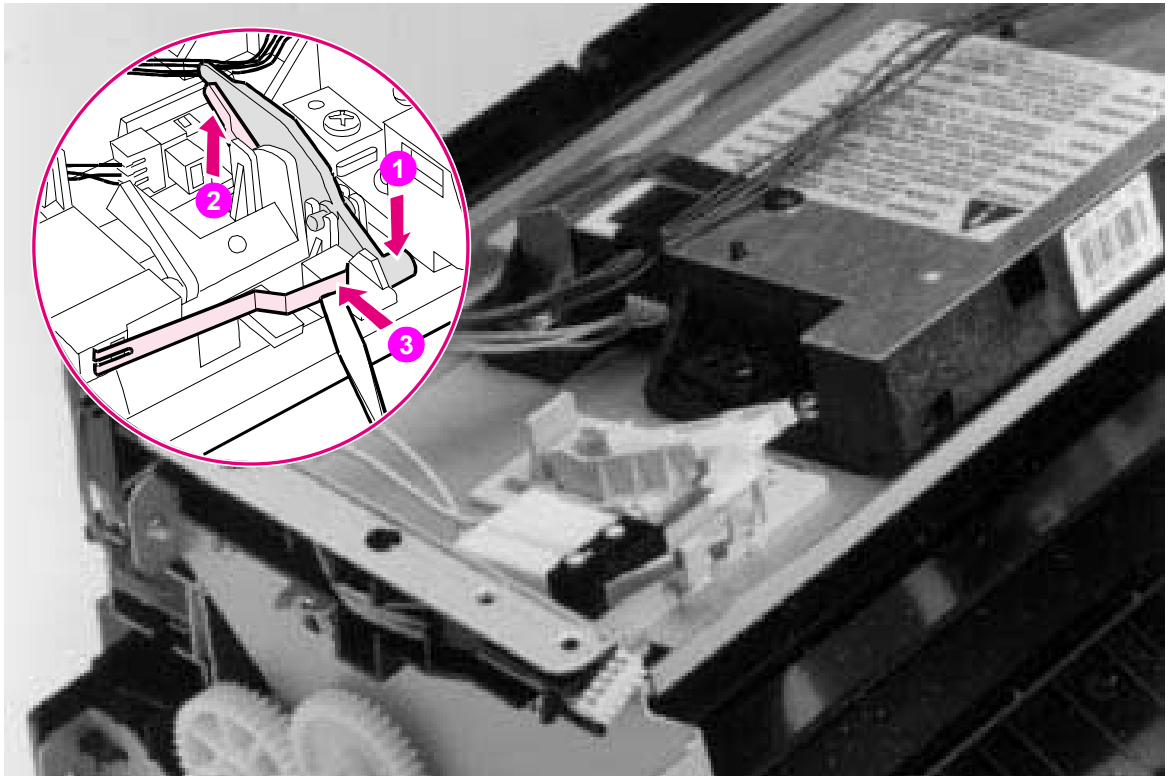

Figure 7-7 Overriding PS204 and SW101
- 2 **For HP LaserJet 5L Printer only:** Press the Door Open flag down (Figure 7-7, callout 1) and lift the EP Cartridge flag (Figure 7-7, callout 2). These flags are located on top of the printer chassis to the left of the Laser/Scanner assembly.
For HP LaserJet 5L, 6L and 6L Pro Printers: Press SW101 (Figure 7-7, callout 3).
The EP Cartridge flag (Figure 7-7, callout 2) is not present on the HP LaserJet 6L Pro.